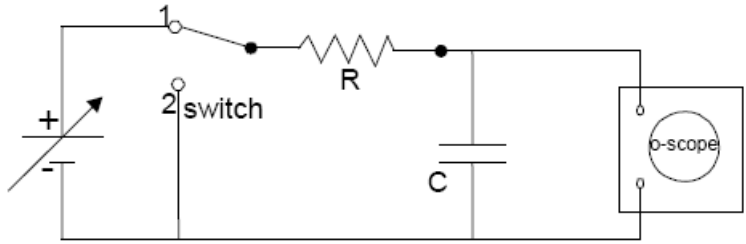
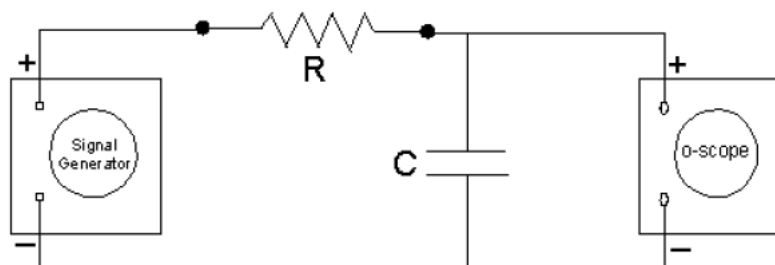

Figure 2
Figure 4
We shall use the oscilloscope to study charging and discharging of a capacitor in a simple RC circuit *similar* to the one shown in Fig. 2. In place of the multimeter used in the first part of lab, the oscilloscope will be used to measure the voltage across the capacitor. More about the oscilloscope can be found in Reference: The Oscilloscope¹.
In this experiment, a function (or signal) generator shown in Figure 4 will replace the switch and power supply shown in Figure 2. This is only a minor difference, and one that you don’t need to worry too much about. In essence, the function generator has the effect of “opening and closing the switch” many times every second in a regular and repeatable way. This allows us to use an oscilloscope to measure the time dependence of the voltage.
- 2 Connect the function generator, capacitor, resistor, and oscilloscope O as shown in Figure 4. Connect the leads from the oscilloscope so that they are measuring the potential difference across the capacitor. Note connections for the positive and negative leads.